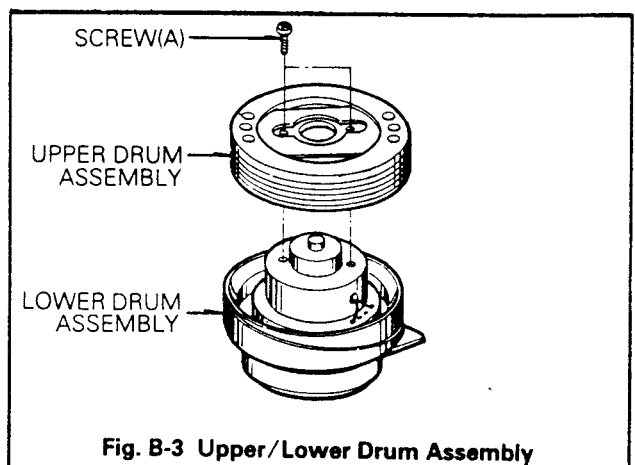

Fig. B-3 Upper/Lower Drum Assembly
- ① Do not touch the Video Head tip with fingers or tools. (Give special attention to disassembling and reassembling of Auto Head Cleaner Assembly)
- ② After reinstalling the Drum Brush, the Drum Brush should be aligned with the center of vertical axis of Drum Assembly.
- ③ After completing the reassembly, adjust the transportation system and the Servo P.G.
3. Upper and Lower Drum Assembly (Fig. B-3)